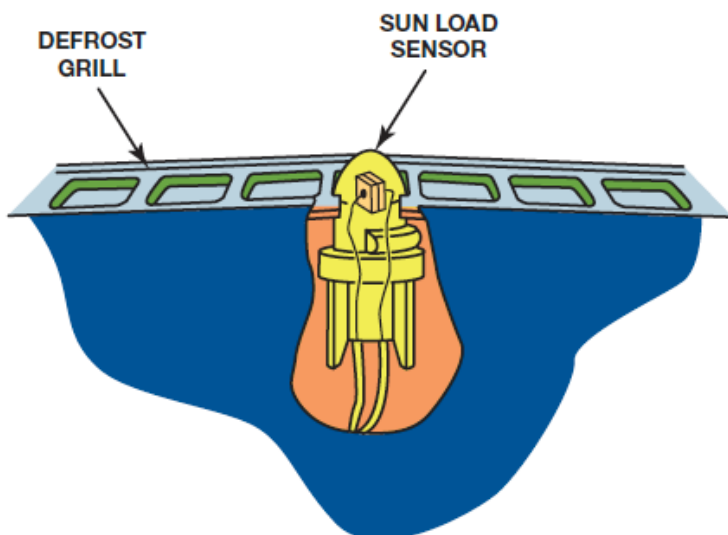

Figure 25. The sunload sensor is located at the base of the windshield inside the vehicle.
- The sun load sensor (also called a solar sensor) is normally mounted on top of the instrument panel and is used to measure radiant heat load that might cause an increase of the in-vehicle temperature. Figure 25.